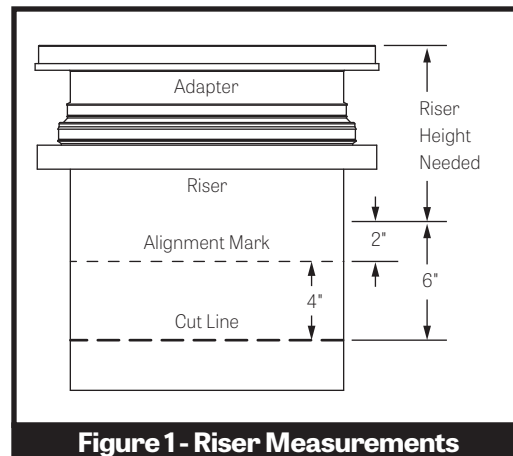

Figure 1 - Riser Measurements
2. Remove covers from adapters. Remove adapters from main unit. On a level surface, pre-assemble the risers and adapters, adjusting the components upwards or downwards to achieve the riser height needed. Make sure to maintain minimum and maximum insertion depths as shown in Figure 2. If components are too long, make a circular line around the sidewall with marker and cut with a power saw. The lowest cut line on the riser assembly will be 6" beyond the riser height needed to allow for ideal insertion depth (See Figure 1). An alignment mark should be drawn 2" beyond the riser height needed which will align with the top of the base unit gasket. **DO NOT** cut the alignment mark. The Adapters and risers should sit level with each other. Tighten upper clamps to keep riser/adaptor assembly from shifting. Make alignment marks on the sidewalls at the top of all riser gaskets to aid final assembly.